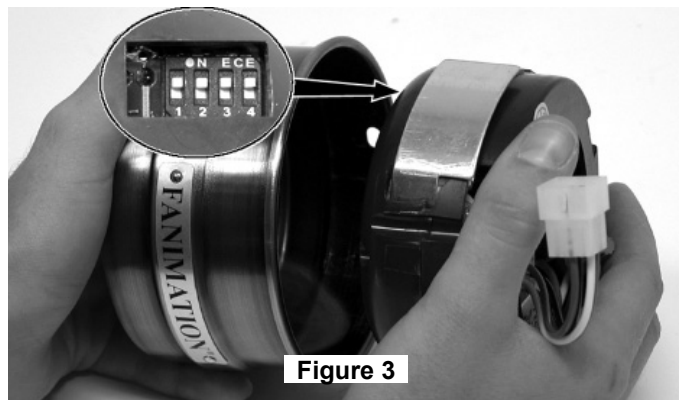

Figure 3
*It is recommended that each fan and the motor have  $\frac{3}{4}$ " plywood backing secured to a structural member for adequate support (Figure 3). A 120 VAC electrical feed, centered under the motor unit and wired to a 3 speed control (supplied) is required. The motor unit will not operate more than 2 pulley/blade assemblies.*
Carefully, slide the remote Receiver from the Switch Cap Housing, and locate the code switches on the underside of the receiver unit (Figure 3).
The remote unit has 16 different code combinations. It may be necessary to test a couple frequency code settings to improve signal reception and/or eliminate interference from other remote control household items. Multiple fans should have different code settings to allow independent fan control. To set the code, slide code switches to the same positions as is set on your C20 transmitter (Figure 3).